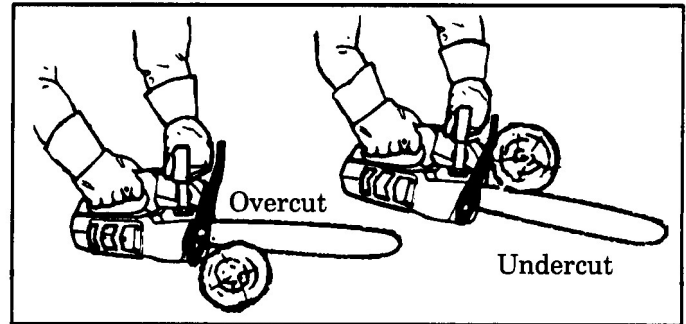

Figure 22
2. TYPES OF CUTTING USED (Figure 22):